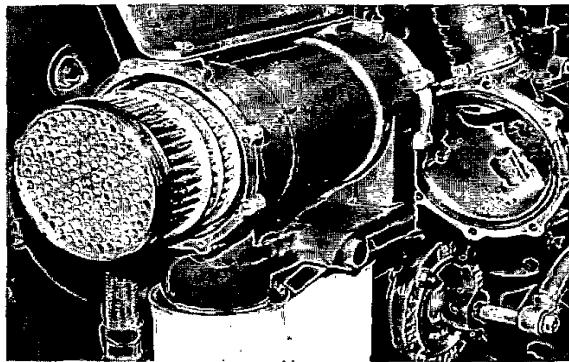

Fig. 152. Oil cooler, marine engines
1. Remove both ends and take out the insert (see fig. 152).